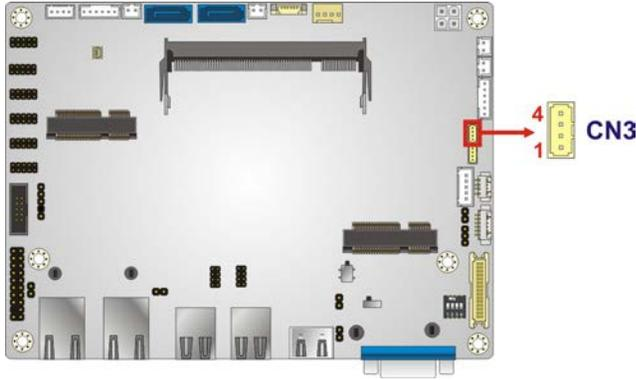

Figure 3-25: SMBus Connectors Location
- CN Location:** See **Figure 3-25**